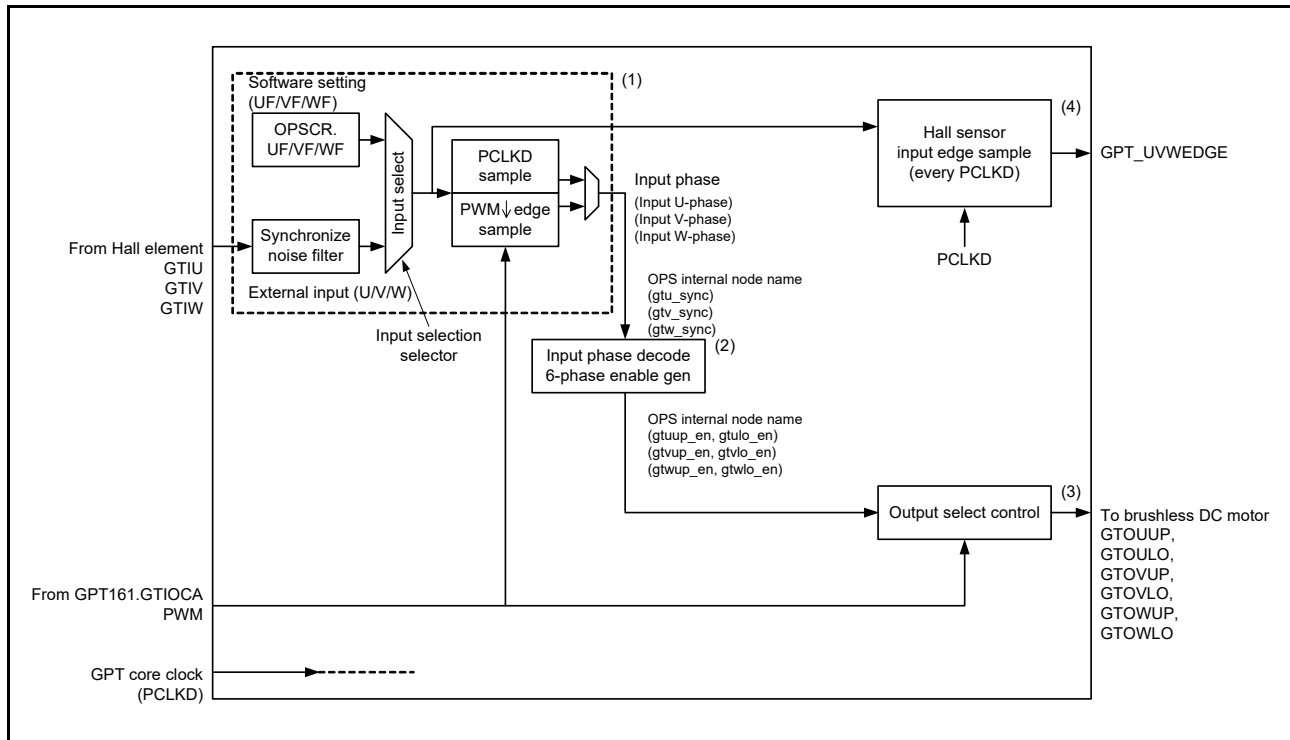

Figure 21.77 Conceptual diagram of GPT\_OPS control flow
Figure 21.77 shows the conceptual diagram of GPT\_OPS control flow.
In the GPT\_ OPS control flow conceptual diagram shown in Figure 21.77, (1) is a selection of input phase from the software settings and external input by the OPSCR.FB bit.
In the GPT\_OPS control flow conceptual diagram shown in Figure 21.77, (2) enables the 6-phase signals by decoding the input phase selected by the OPSCR.FB bit. The 6-phase enable signal is used for internal processing of GPT\_OPS.
In the GPT\_OPS control flow conceptual diagram in Figure 21.77, (3) represents the selection of the output waveform by setting the OPSCR register bit.
In the GPT\_OPS control flow conceptual diagram shown in Figure 21.77, (5) outputs the Hall sensor input signal edge to the ELC.